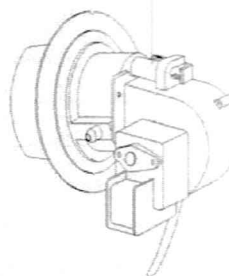

Figure 10. Photocell position
**Photocell** - The Photocell should be cleaned at least once per heating season or more depending on conditions. Use a cotton swap dipped in water or alcohol to clean the lens of the Photocell. Note the proper Photocell position as noted in Figure 10.